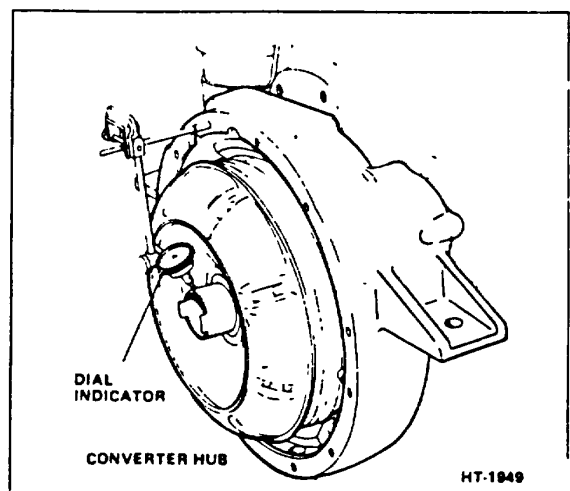

Figure 15. Checking Converter Alignment
- a. Mount a dial indicator as shown in Figure 15.